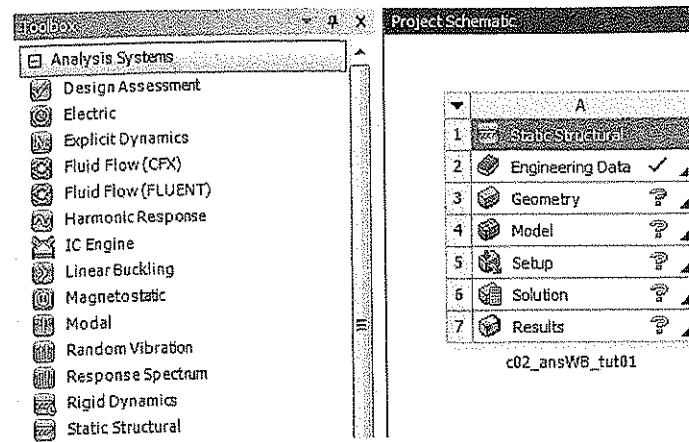

Figure 2-43 The Static Structural analysis system added to the project
- Once the project is added to the **Project Schematic** window, its name is highlighted at the bottom of the analysis system in blue. If it is not highlighted, double-click on the name and enter `c02_ansWB_tut01`, as shown in Figure 2-43. The analysis system is renamed.